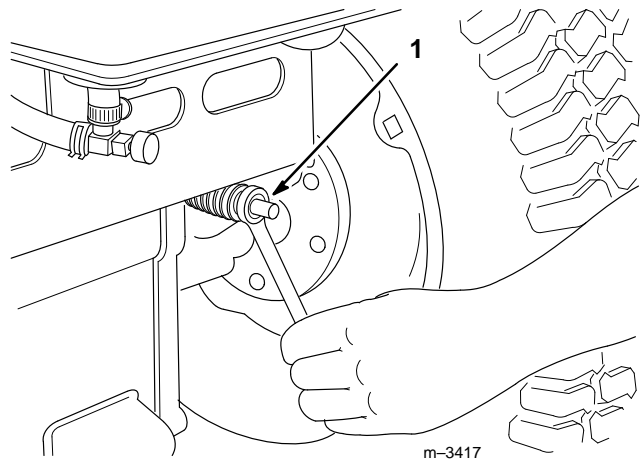

Figure 38
The brake adjustment is at the rear of the tractor (Fig. 38). If the parking brake does not hold securely, an adjustment is required.
4. Turn the brake adjustment nut (Fig. 38) until there is 2” (51 mm) of free travel.